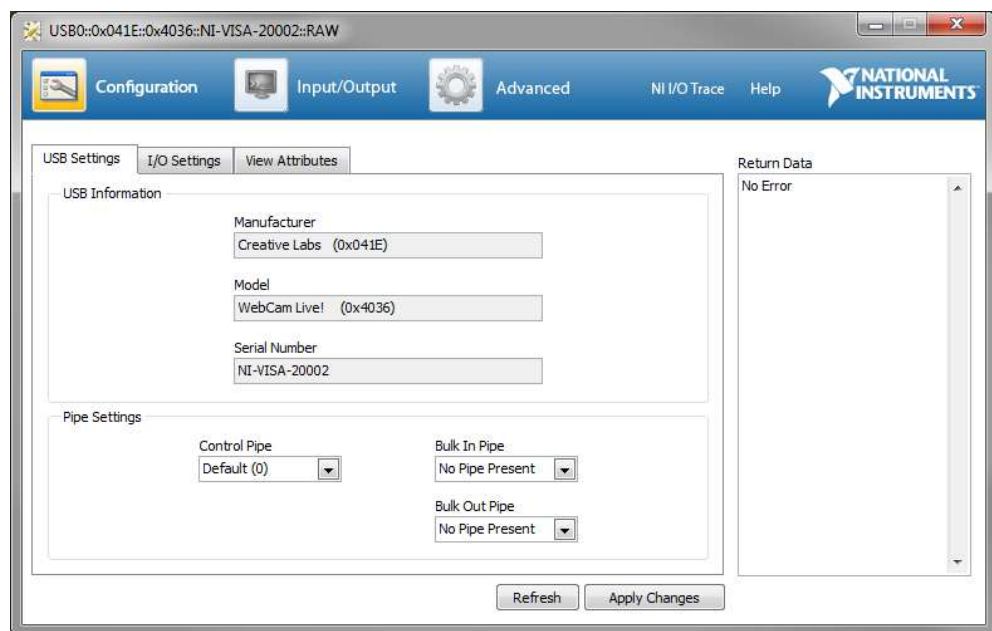

Figure 11. VISA Interactive Control Open VISA Session
3. The VISA Interactive Control (VISAIC) is a utility program used to communicate easily with any VISA resource. After your USB device is configured to use VISA, it should be listed in the USB branch. Double-click on your device to open a VISA session to the device. The window shown in Figure 11 should open.